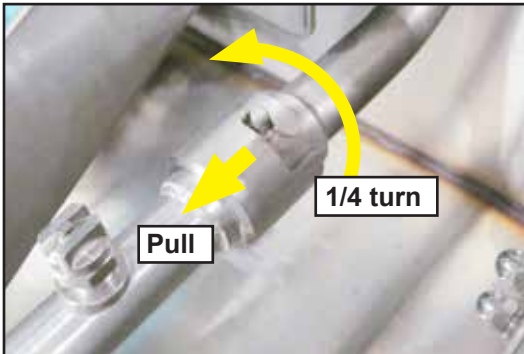

Fig. 73 -
- 1 Rotate the rinse arm 1/4 turn and pull to remove from the rinse manifold, Fig. 73.
- 2 Rotate the rinse arm 1/4 turn and pull to remove from the rinse manifold, Fig. 73.